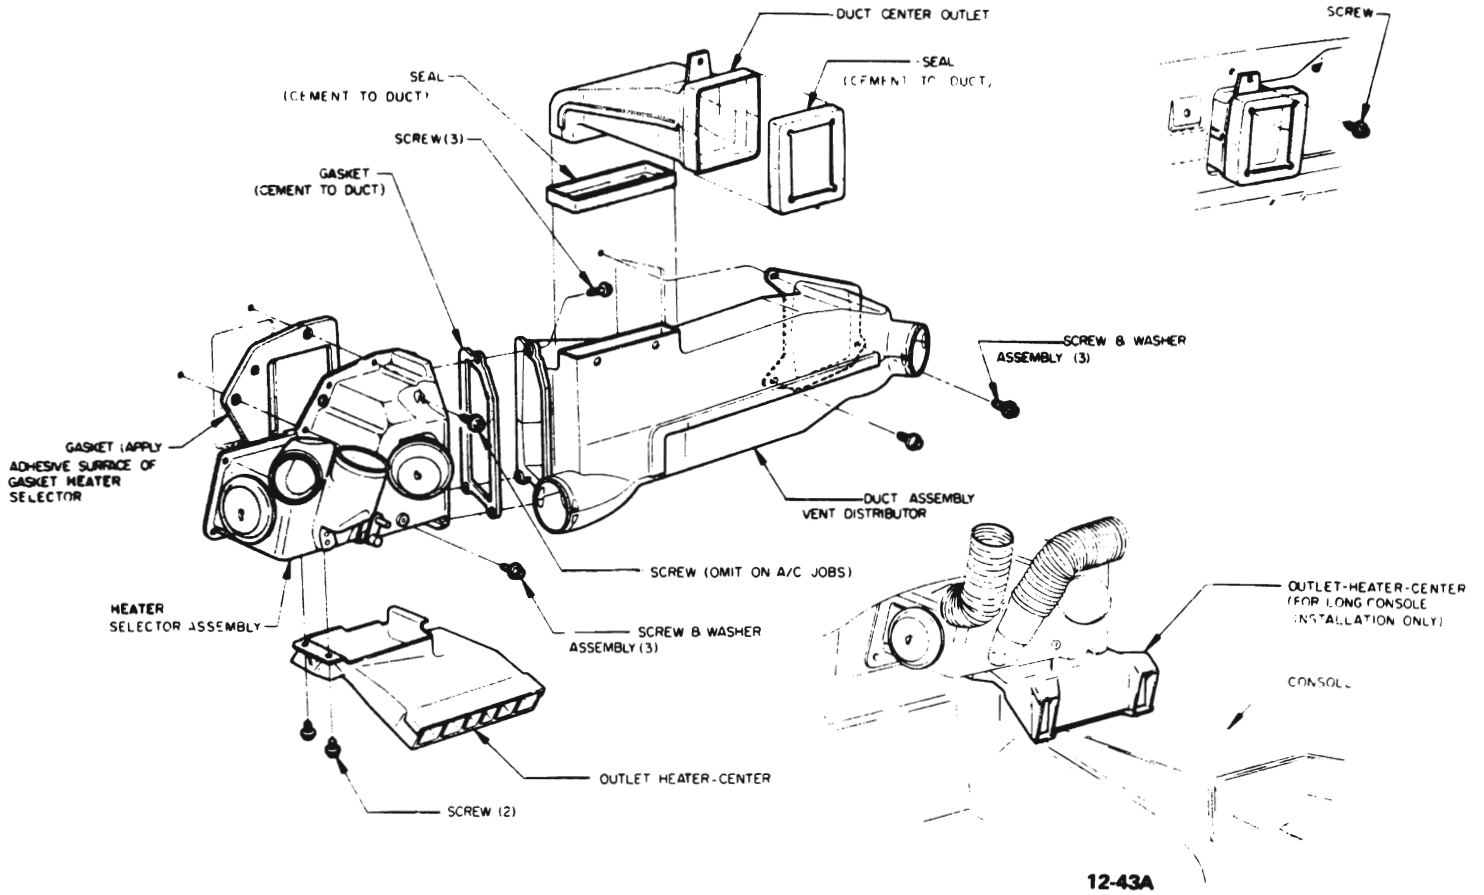
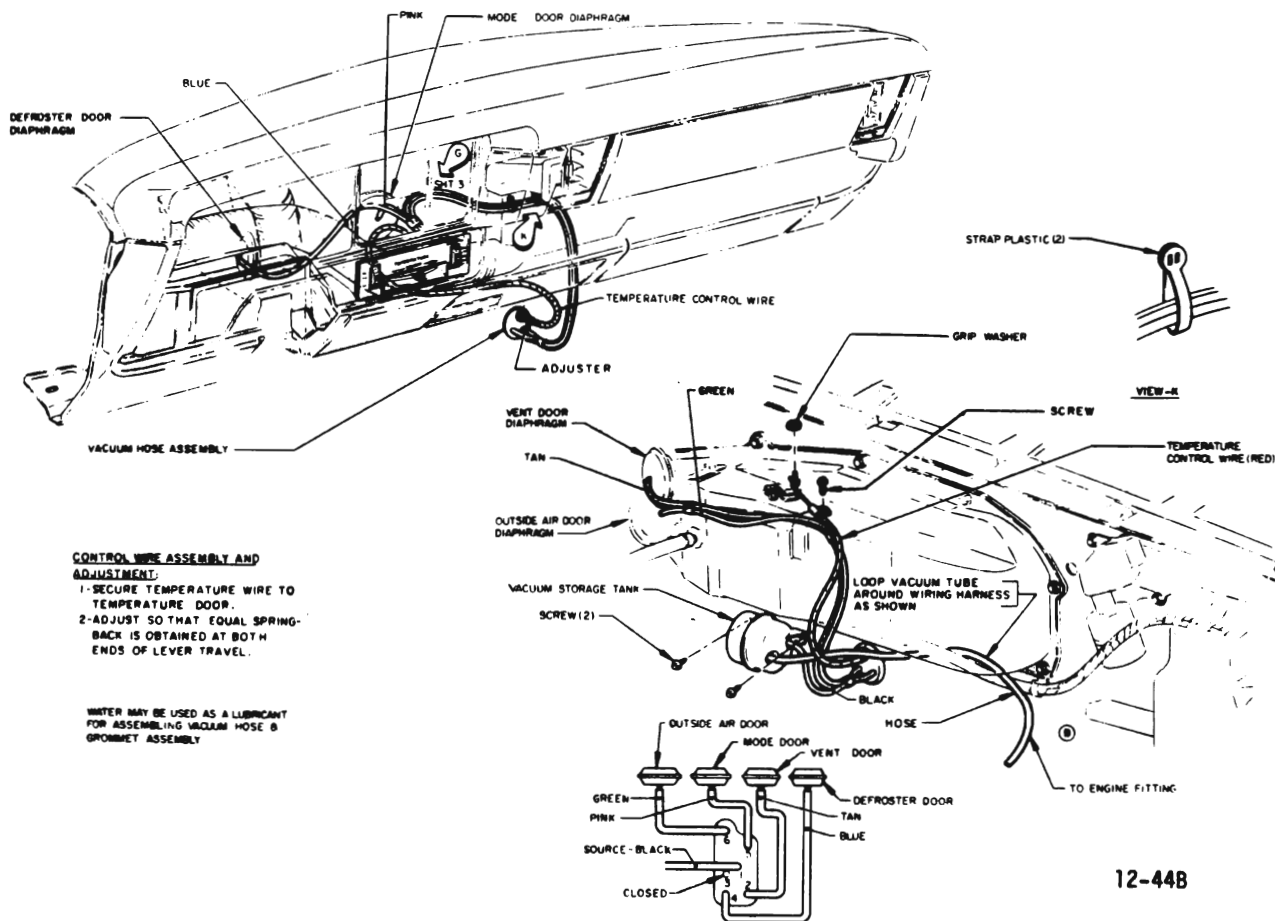
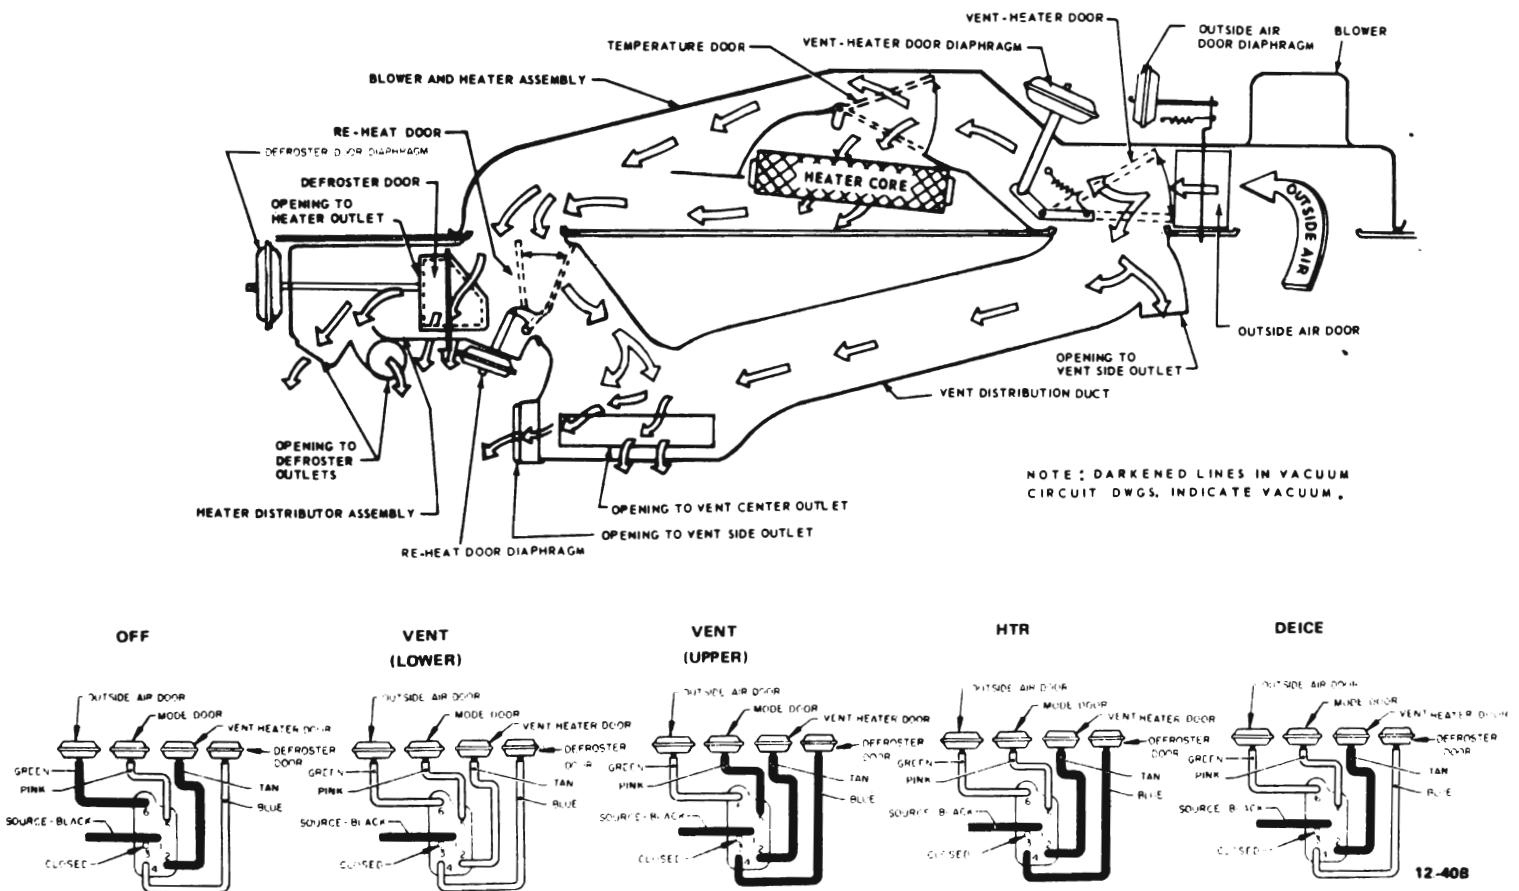

Figure 12-22 Heater Selector Assembly, Vent Distributor Duct and Center Outlet Installation
Figure 12-23 Vacuum Hose and Control Cable Installation
Figure 12-25 Heater System Air Flow
The system consists of four major parts: (1) the heater and blower assembly (see Figure 12-21) which houses the blower motor, outside air door, temperature door, vent-heater door, heater core and vacuum diaphragms; (2) the heater selector assembly which contains the defroster door and reheat door and diaphragm (see Figure 12-22); (3) the vent distributor duct; and (4) the instrument panel control assembly (see Figure 12-23).
The flow of air in the heater system is shown in Figure 12-25. Air enters the plenum chamber thru an opening forward of the windshield.
2. **TEMPERATURE Lever** - This lever regulates the position of the temperature door (see Figure 12-25) thru action of a control cable (see Figure 12-23). The **TEMPERATURE** lever is connected by a control wire to the temperature door on the heater assembly, and regulates the ratio of mixture between heated and unheated air, hence the temperature of the air. When the **TEMPERATURE** lever is positioned fully to the left, the temperature door is fully closed and prevents air flow through the heater core. When the **TEMPERATURE** lever is positioned midway in its range of travel, the temperature door is moved in proportion to allow more outside air to flow through the heater core and hence be warmed. When the **TEMPERATURE** lever is positioned fully to the right, the temperature door is fully open and directs all outside air through the heater core.
a. **"OFF"** Position - In this position vacuum is applied to the outside air door and reheat door diaphragms to hold these doors closed. See Figure 12-25.
2. Remove center instrument panel outlet duct. See Figure 12-22.
4. Disconnect temperature door control cable. See Figure 12-23.
5. Disconnect vacuum hoses attached to outside door and vent-heater door vacuum diaphragms. See Figure 12-23.
<p>Insufficient Heating</p>	<p>Kinked vacuum hoses or defective SELECTOR switch – Check that there is no vacuum applied to diaphragm of outside air door, and that vacuum is applied to diaphragm of vent-heater door (see Figure 12-25) when SELECTOR switch is in "HTR" position.</p> <p>Sticking outside air door – Disconnect door lever spring and move door lever to check for smooth operation.</p> <p>Temperature door does not open sufficiently--Check operation and adjustment of door and TEMPERATURE switch (refer to paragraph 12-22).</p> <p>Check for dirt particles in engine thermostat.</p> <p>Insufficient coolant or plugged heater core – Feel and compare temperature of heater core inlet and outlet pipes. Both hoses should be hot and approximately same temperature.</p> <p>Check for dislodged diaphragm in flow control valve.</p>
<p>Insufficient Air thru Instrument Panel Outlets</p>	<p>Kinked vacuum hoses or defective SELECTOR switch – Check that no vacuum is applied to either outside air or vent-heater diaphragms when SELECTOR lever is in "VENT" position (see Figure 12-25).</p> <p>Sticking outside air and/or vent-heater doors – Disconnect door lever springs and move door lever to check for smooth operation.</p> <p>Defective vent-heater diaphragm – Substitute new diaphragm.</p>
<p>No Split Mode on Upper Vent Position. All Air Comes Out I.P. Outlets</p>	<p>See Figure 12-22 screw missing that is suppose to be omitted only on A/C jobs.</p>